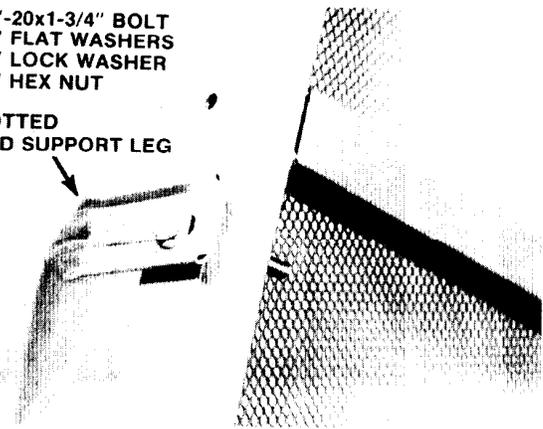

FIGURE 5
STEP 1: Attach support legs with slotted holes to rim of reflector at the center of each segment. Attach with 1/4"-20x1-3/4" bolts. Use flat washers on both sides and lock washers under hex nut. Two persons are required for this step. See Figure 5. *** HOLES HAVE BEEN PUNCHED AT EITHER END OF ONE OF THE QUAD FEED SUPPORT LEGS, SHOULD YOU WISH TO RUN CABLES INSIDE. INSTALL THIS LEG IN THE DESIRED POSITION.**